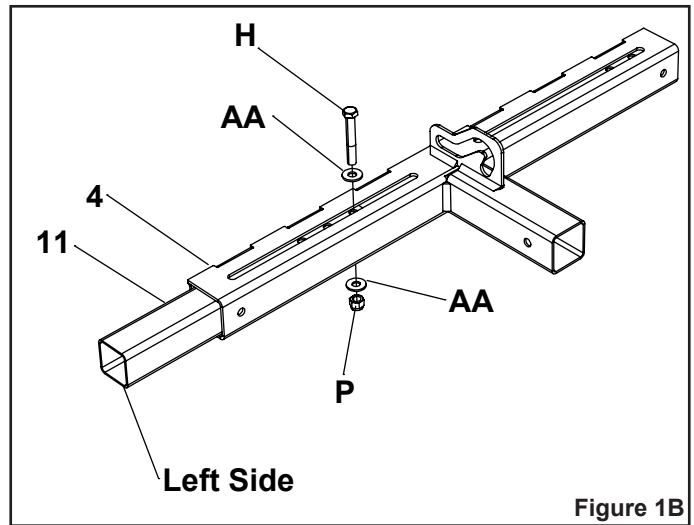

Figure 1B
- Position the hitch mount assembly (4) with the receiver hitch facing towards you.
- Insert a slider tube (11) with the holes facing inwards into the left side of the hitch mount assembly (4). Letting the end hang out about one to two inches.
- Insert a slider tube (11) with the holes facing outwards all the way into the right side of the hitch mount assembly (4).
STEP 1B: (SEE FIGURE 1B)
- Hold the hitch mount assembly (4) onto the front frame of the mower and center it.
- Adjust the end of the slider tube (11) on the left side of the hitch mount assembly (4) so it is within a 1/4" of the caster pivot assembly.
- Remove the hitch mount assembly (4) from the mower without moving the slider tubes (11).
- Install a hex bolt (H) and washer (AA) through the hitch mount assembly (4) and left slider tubes (11) inner hole as shown below.
- Install a washer (AA) and a nylock hex nut (P).